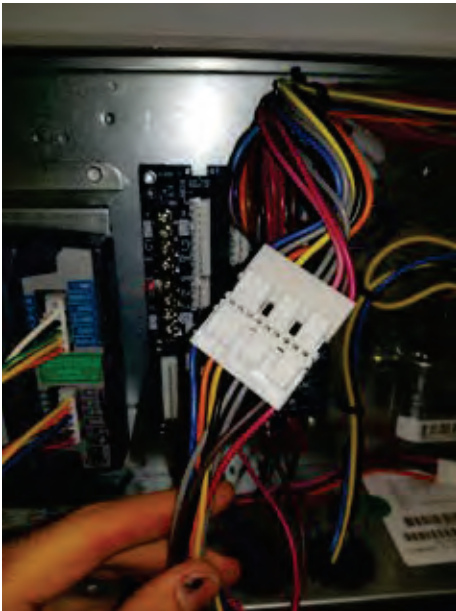

Figure 17 – Connect 10-pin Plugs Together
Step 26: Connect the 10-pin female ECON plug removed from the CTB to the 10-pin male plug from the Jade controller harness. See Figures 17 and 26